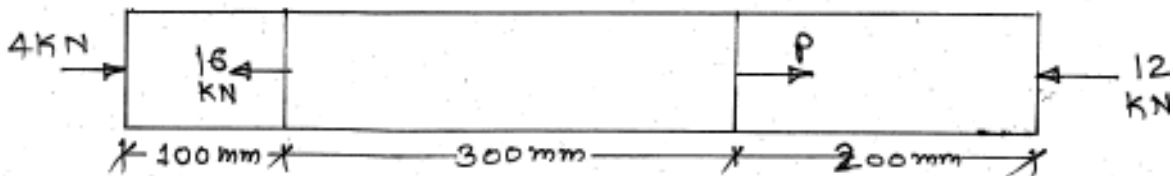

Figure No. 1 (Q. 2 (b))
- A mild steel bar of square cross section 10 mm × 10 mm is subjected to a forces as shown in Figure No. 1. Find the value of P and change in length of each part along with total change in length. Take $E = 200 \text{ kN/mm}^2$.